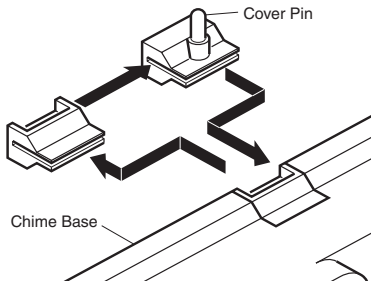

Figure 7
- **Hanging Cover:** Before mounting chime base to wall, slide the cover pin that will be on top of the mounted base out of the base. Turn it over so the pin is protruding above the base. Slide the cover pin into base (see Figure 7). Hang cover on cover pin.